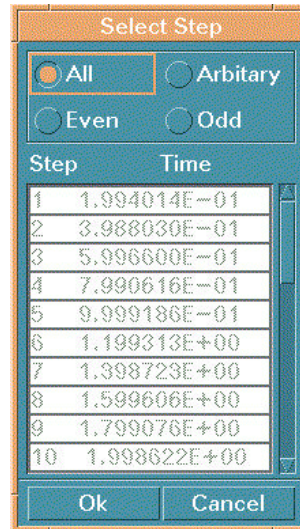

Figure 3.2.4
6. Select the desired time steps and OK in Figure 3.2.4.